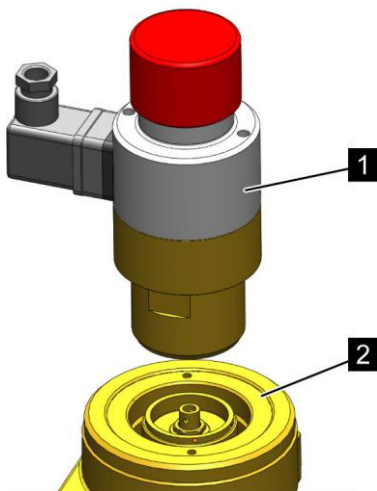

Fig. 18: Unscrewing the release device
2. ➤ Unscrew the electric release device (Fig. 18/1) fitted on the "pilot cylinder" extinguishing agent container from the valve (Fig. 18/2).